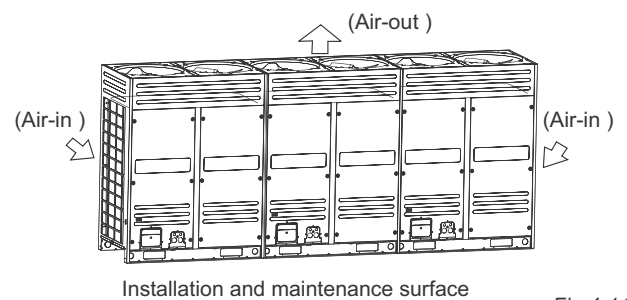

Fig.4-11
- Ensure enough space for maintenance. The modules in the same system must be on the same height. (see the Fig 4-11)